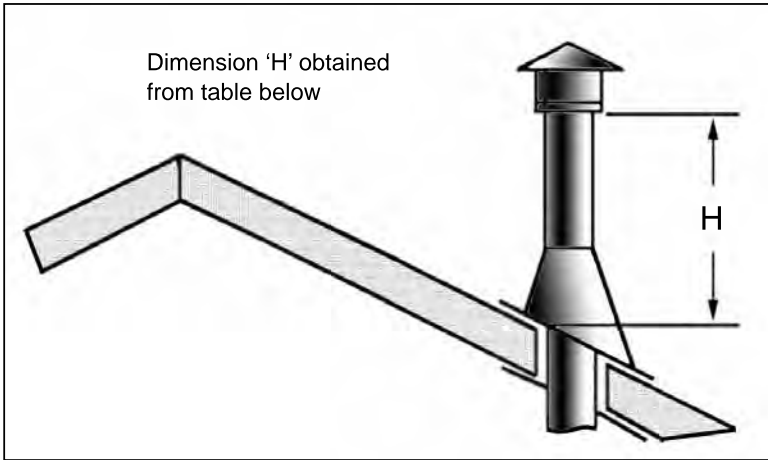

Figure 74: Height of Vertical Termination; Reference Table 10
- Step 4.** Measure roof pitch. Select the proper flashing and storm collar and determine the height above the roof (figure 74 and Table 10). A non-corrosive pipe material must be used for all exterior pipe lengths. Seal nail heads with silicone.